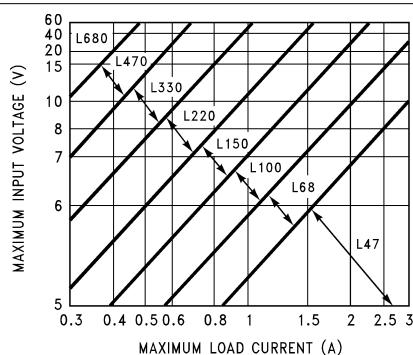
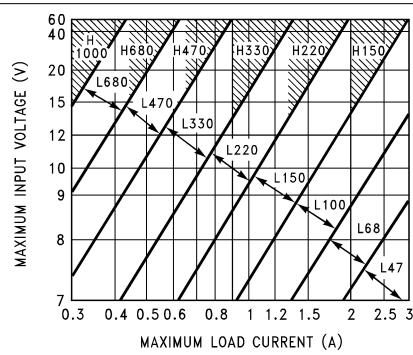
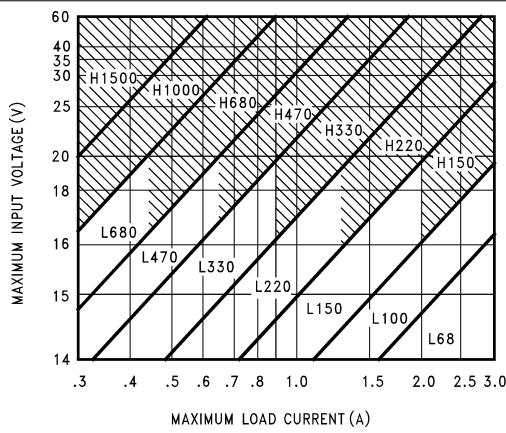
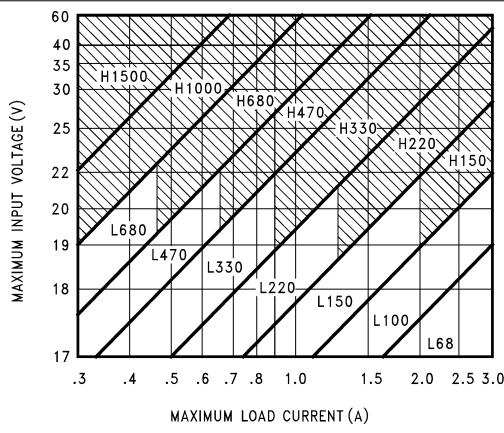

Figure 8-4. LM2576(HV)-3.3
Figure 8-5. LM2576(HV)-5.0
Figure 8-6. LM2576(HV)-12
Figure 8-7. LM2576(HV)-15
The inductor value selection guides in Figure 8-4 through Figure 8-8 are designed for buck regulator designs of the continuous inductor current type. When using inductor values shown in the inductor selection guide, the peak-to-peak inductor ripple current is approximately 20% to 30% of the maximum DC current. With relatively heavy load currents, the circuit operates in the continuous mode (inductor current always flowing), but under light load conditions, the circuit is forced to the discontinuous mode (inductor current falls to zero for a period of time). This discontinuous mode of operation is perfectly acceptable. For light loads (less than approximately 300 mA), it can be desirable to operate the regulator in the discontinuous mode, primarily because of the lower inductor values required for the discontinuous mode.
1. Select the correct Inductor value selection guide from Figure 8-4, Figure 8-5, Figure 8-6, or Figure 8-7. (Output voltages of 3.3 V, 5 V, 12 V or 15 V respectively). For other output voltages, see the design procedure for the adjustable version. Use the selection guide shown in Figure 8-5.
3. Identify the inductor value from the inductor code, and select an appropriate inductor from the table shown in Figure 8-4. Part numbers are listed for three inductor manufacturers. The inductor chosen must be rated for operation at the LM2576 switching frequency (52 kHz) and for a current rating of  $1.15 \times I_{LOAD}$ . For additional inductor information, see Section 8.1.2. Inductor value required is 100  $\mu$ H from the table in Figure 8-4. Choose AIE 415-0930, Pulse Engineering PE92108, or Renco RL2444.